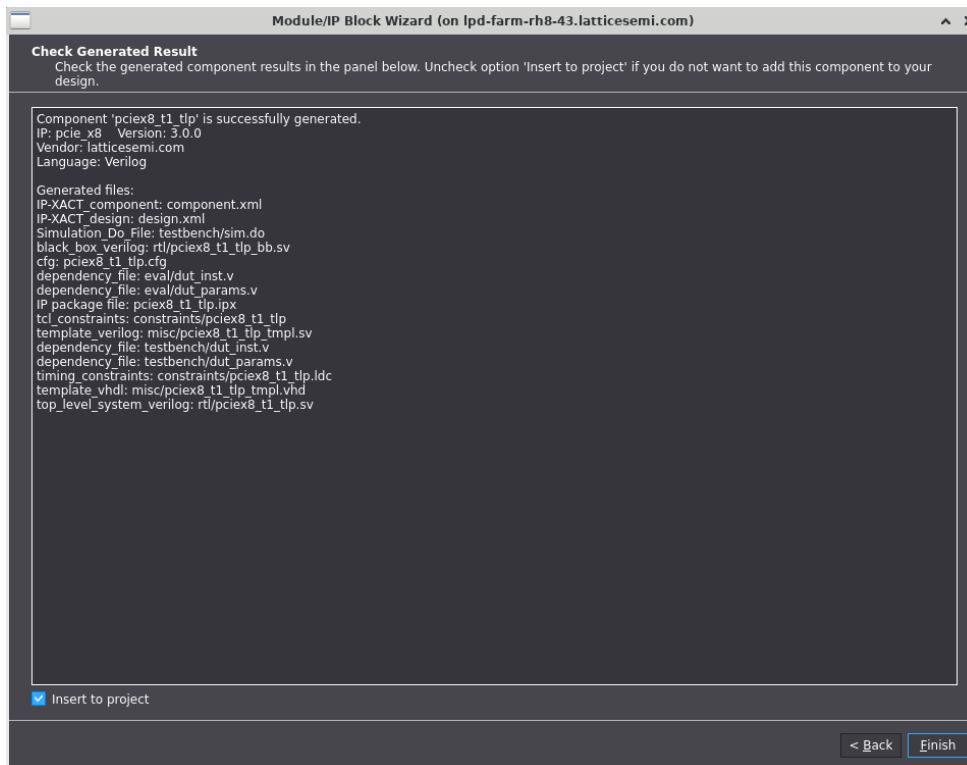

Figure 7.7. Check Generated Result
4. Click **Generate**. The **Check Generated Result** dialog box opens, showing design block messages and results as shown in Figure 7.7.